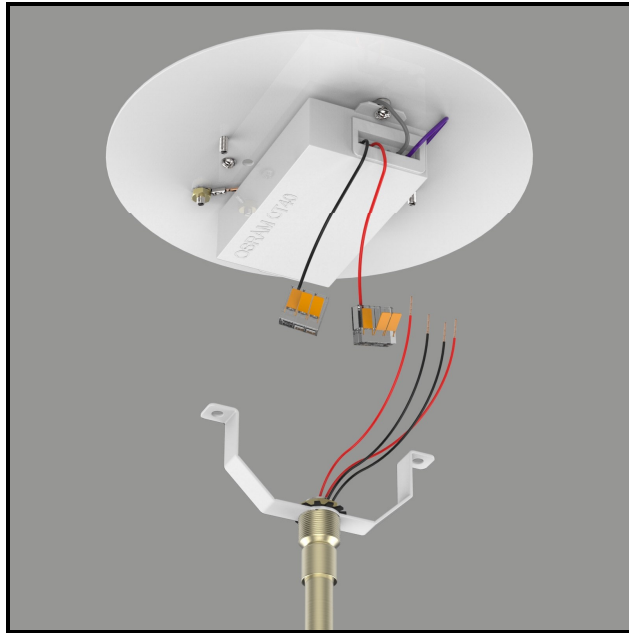

Figure 9
- Make wire connections from driver to fixture. (Figure 9)